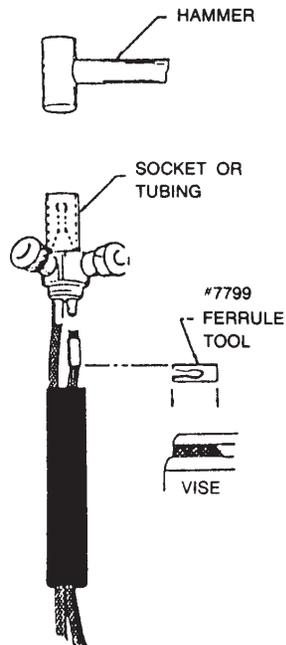

Figure 2
5. Hold torch so that ferrule tool is resting on top of vise, jaws, opened to approximate width of hose. With a plastic hammer, wood block or equivalent, tap lightly on end of tubing or socket until the metal ferrule just covers the barbs of the nipples. See Figure 2. Remove ferrule tool.
5. Hold torch so that ferrule tool is resting on top of vise, jaws opened to approximate width of hose. With a plastic hammer, wood block or equivalent, tap lightly on end of tubing or socket until the metal ferrule just covers the barbs of the nipples. See Figure 2. Remove tool.